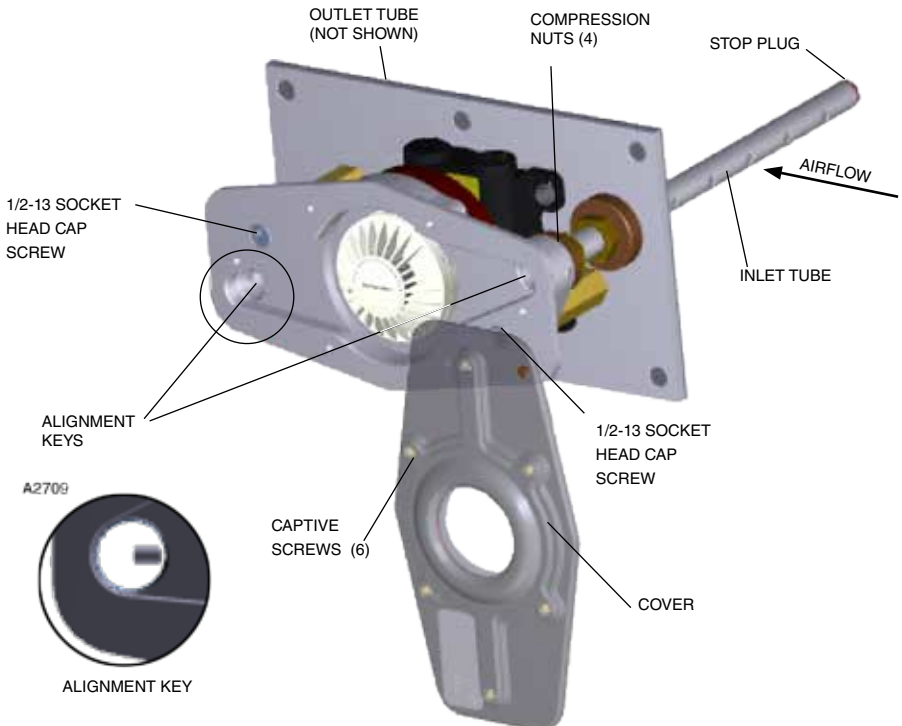

Figure 10—Q5016 Assembling front cover to plate assembly
2. Lift the cover from the base and swing it down to view the alignment keys for the inlet and outlet tubes, and to access the two socket head cap screws in the interior (Figure 10).